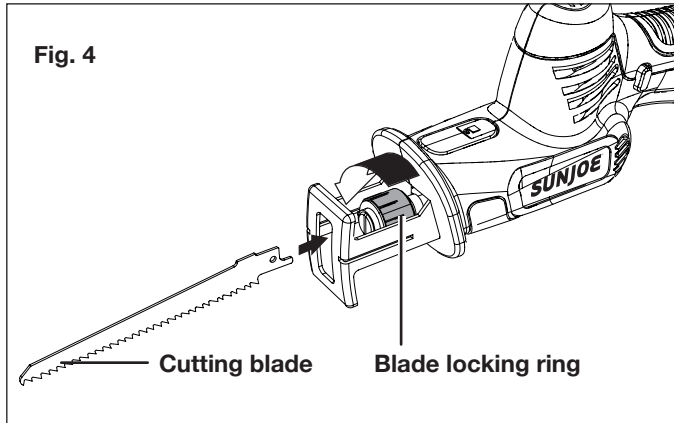

Fig. 4
3. Use one hand to rotate and hold the blade locking ring counterclockwise, and using the other hand to insert the selected blade in the blade holder. Release the blade locking ring to lock the blade in place (Fig. 4).